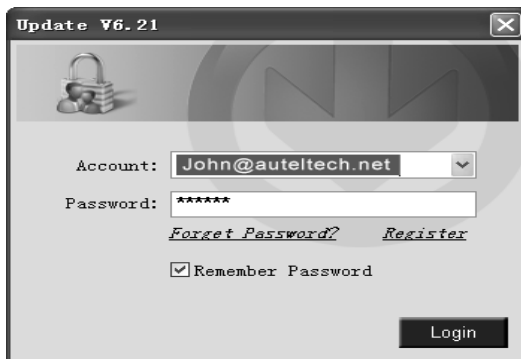

Figure 12.2
4. Run the **Autel Update** option in **Autel PC Suit** software. Wait for the Log In window to pop up. (Figure 12.2)